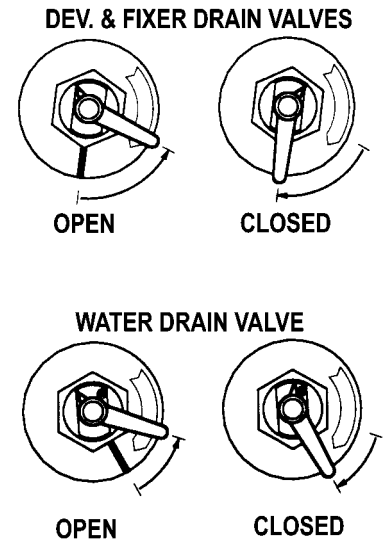

Figure 1
- Drain the tanks one at time by opening the drain valves located at the front bottom of the processor. (See Figure 1) As each tank drains, check all seals and connections. Close the valves after completely draining each tank.